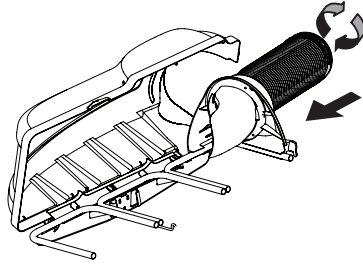

Figure 21
1. Thread the upper end of the hose (764-05275) securely into the upper chute support. There are two tabs on the lower inside part of the upper chute support to allow for secure threading. See Figure 21.